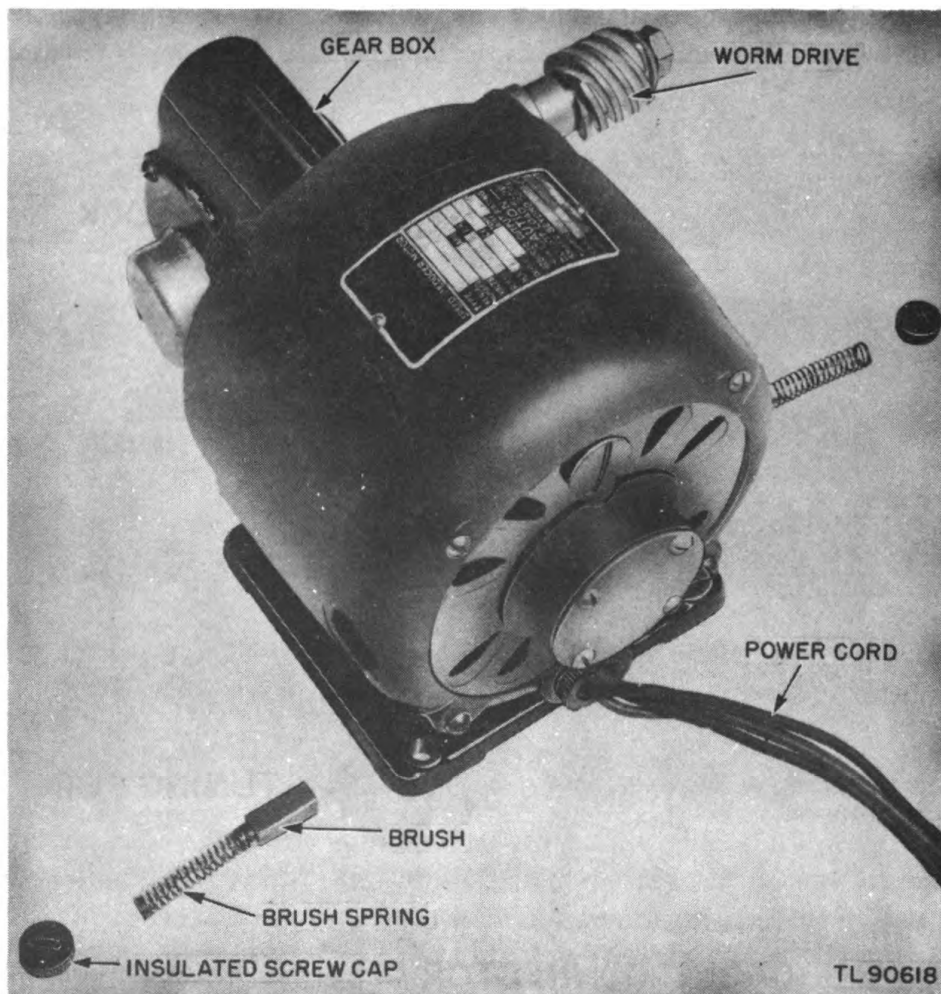

Figure 15. Motor.
15. MOTOR. A d-c, 12-volt, $\frac{1}{12}$ -horsepower motor, shunt wound, with a built-on reducer (fig. 15), is coupled to a worm drive which engages a 7-inch worm gear to rotate the antenna array and the automatic code keyer at $2\frac{1}{2}$ rpm. The motor input to the reducer is 1,725 rpm, and the motor output to worm gear is 43 rpm.